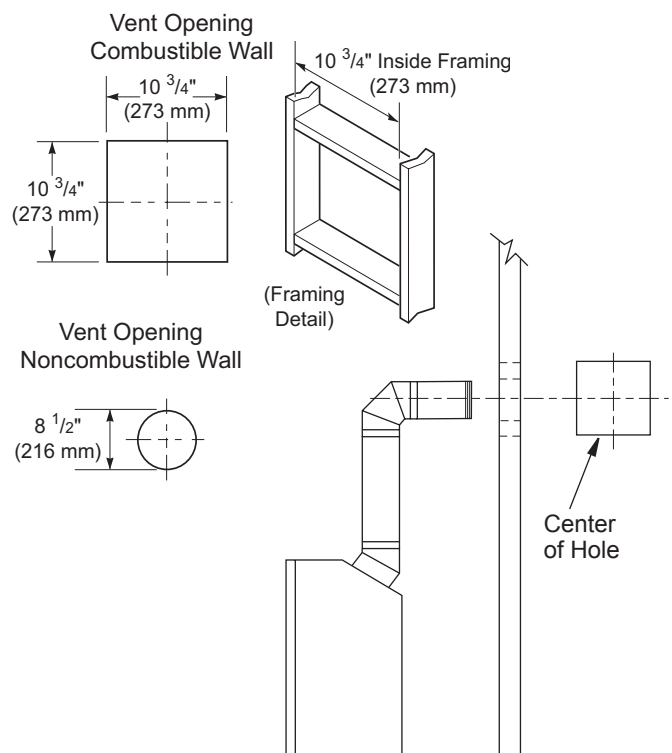
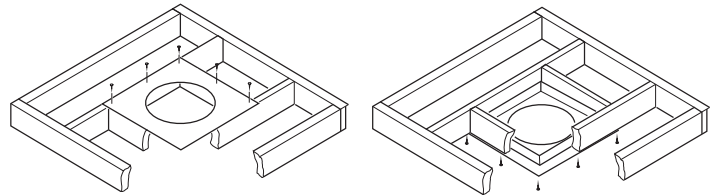

Figure 9 - Vent Opening Requirements
Figure 20 - Installing Firestop
5. Carefully determine the location where the vent pipe assembly will penetrate the outside wall. The center of the hole should line up with the center-line of the horizontal vent pipe. Mark the wall for a 10 3/4" x 10 3/4" square hole. Cut and frame the square hole in the exterior wall where the vent will be terminated. If the wall being penetrated is constructed of noncombustible material, such as masonry block or concrete, a 8 1/2" hole with zero clearance is acceptable (see Figure 9).
1. Cut a 10 3/4" square hole in the ceiling using the locating hole as a center point. The opening should be framed to 10 3/4"x10 3/4" (273 mm x 273 mm) inside dimensions, as shown in Figure 9 on page 8 using framing lumber the same size as the ceiling joists. If the area above the ceiling is an insulated ceiling or a room, nail firestop from the top side. This prevents loose insulation from falling into the required clearance space. Otherwise, install firestop below the framed hole. The firestop should be installed with no less than three nails per side (see Figure 20).
3. Cut a hole in the roof using the locating hole as a center point. (Cover any exposed open vent pipes before cutting hole in roof.) The 10 3/4"x10 3/4" hole must be measured on the horizontal; actual length may be larger depending on the pitch of the roof. There must be a 1" clearance from the vent pipe to combustible materials. Frame the opening as shown in Figure 9, page 8.